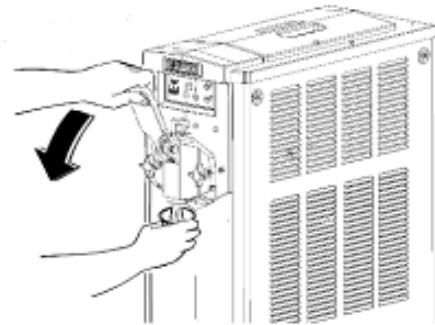

Fig. 37
- Empty the cylinder and repeat the same steps until the water coming out is clear (Fig. 37).